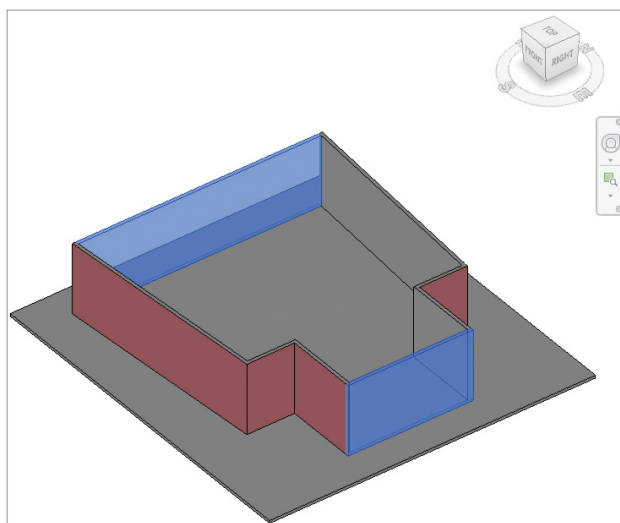

FIGURE 1.20 Use the Ctrl key to manually select multiple items in your model.
7. In the 3D view, select the wall at the west (left) side of the layout. Press and hold the Ctrl key, and select the wall segment at the east (right) side as well (Figure 1.20).